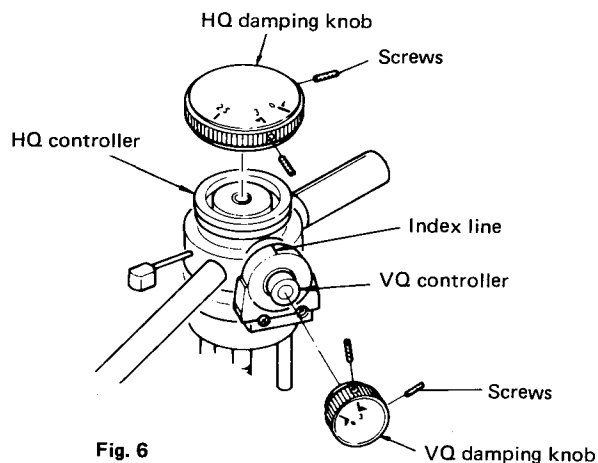

Fig. 6
- **How to replace the HQ damping knob (Fig. 6)**
- **How to replace the VQ damping knob (Fig. 6)**